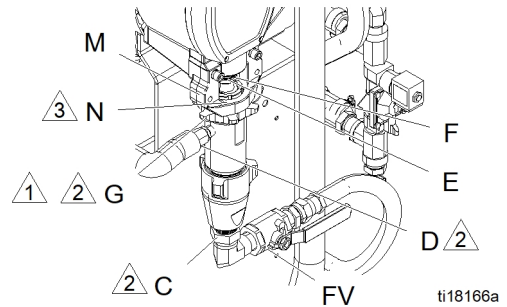

FIG. 11: Pump B
1. Ensure locknut (G) is screwed on pump with flat side up. Screw pump into bearing housing (M) until pin holes align. Push pin (F) in. Pull retaining wire clip (E) down. See FIG. 11, page 70 for view and assembly notes.
2. Continue screwing pump into housing until fluid outlet (D) is aligned with steel tube and top threads are +/- 1/16 in. (2 mm) of bearing face (N).
3. Tighten locknut (G) by hitting firmly with a non-sparking hammer.
4. Reconnect fluid inlet (C) and outlet (D).